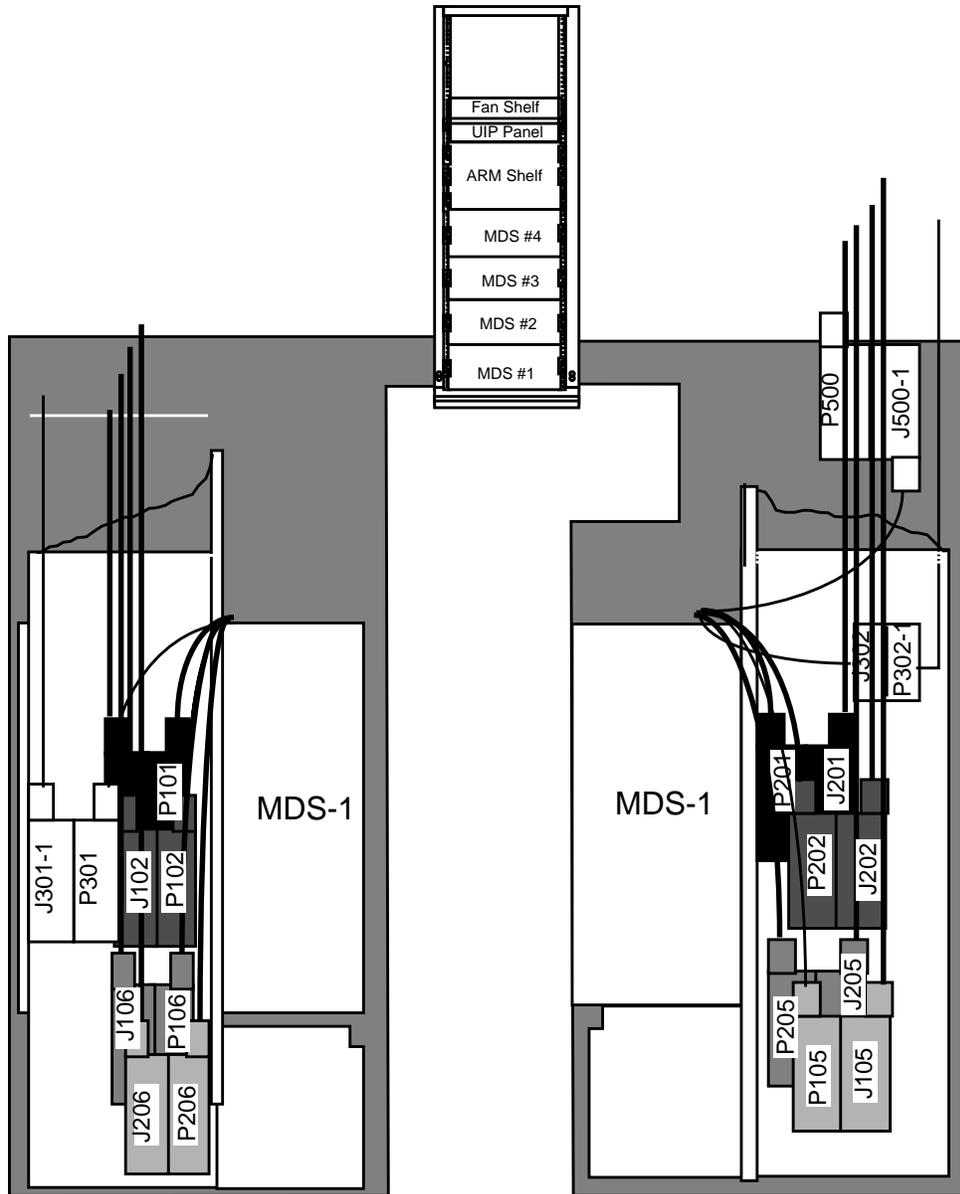

Figure 3-41. MDS-1 E&M Cabling
Step 3: Orient the mating cable connectors so that the customer cables exit upwards towards the cable racks. Refer to Figure 3-41.